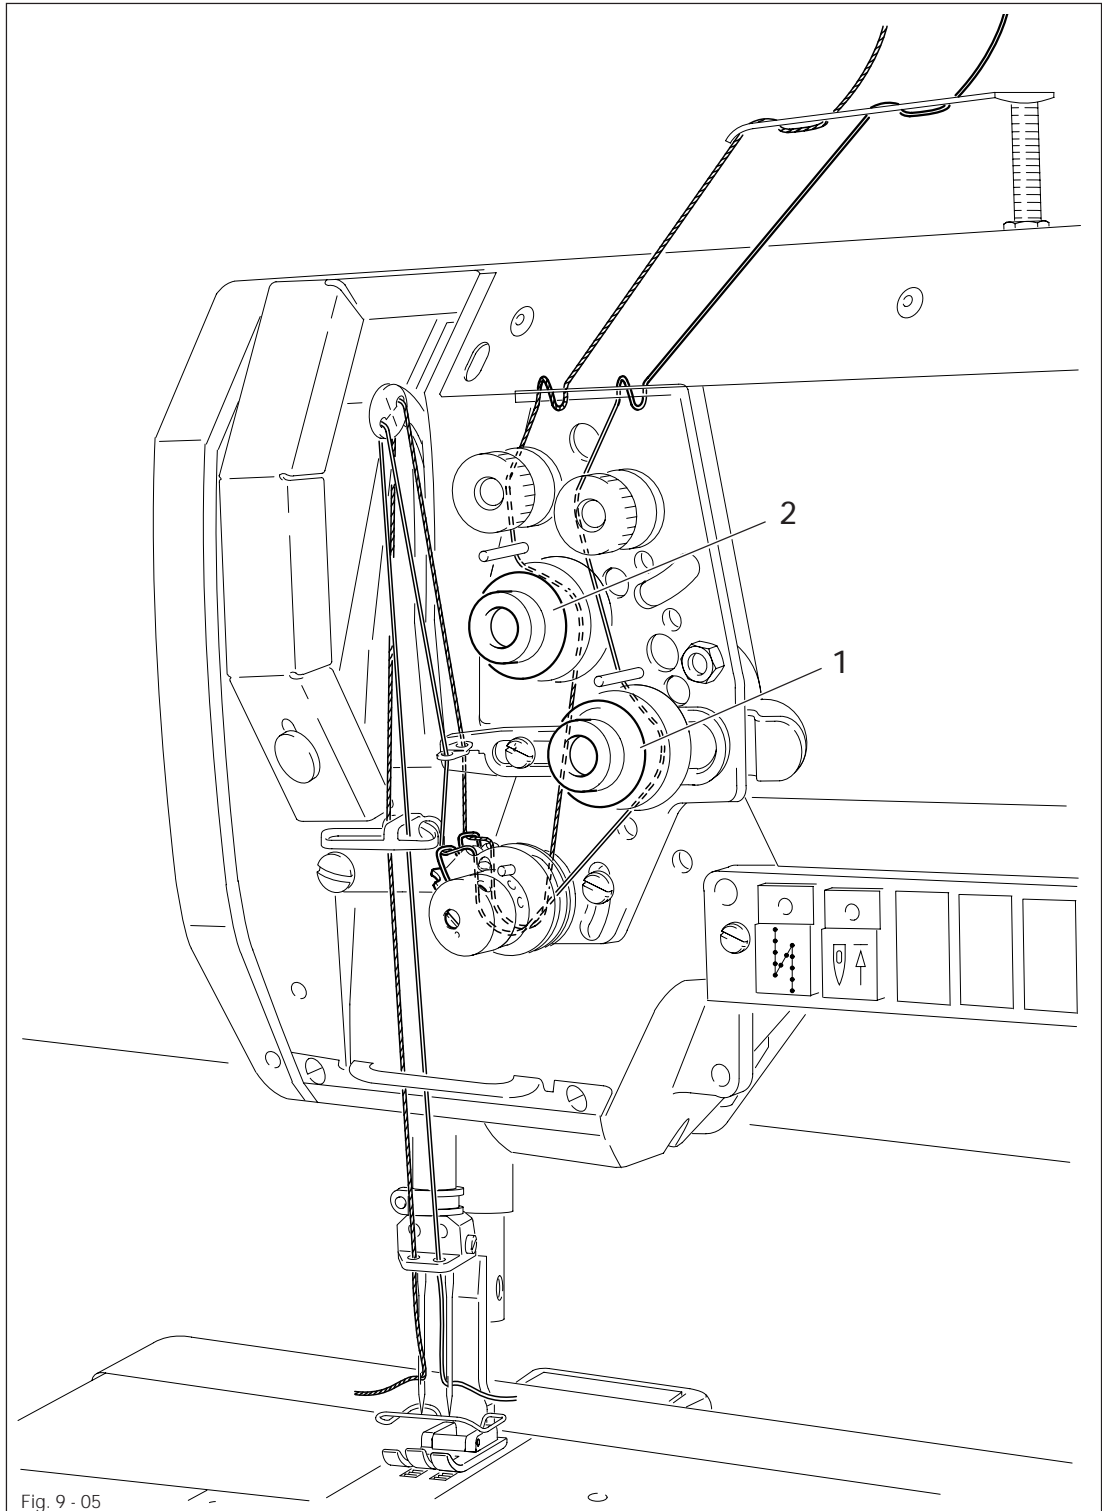

Fig. 9 - 05
- Thread the needle thread as shown in Fig. 9 - 05.